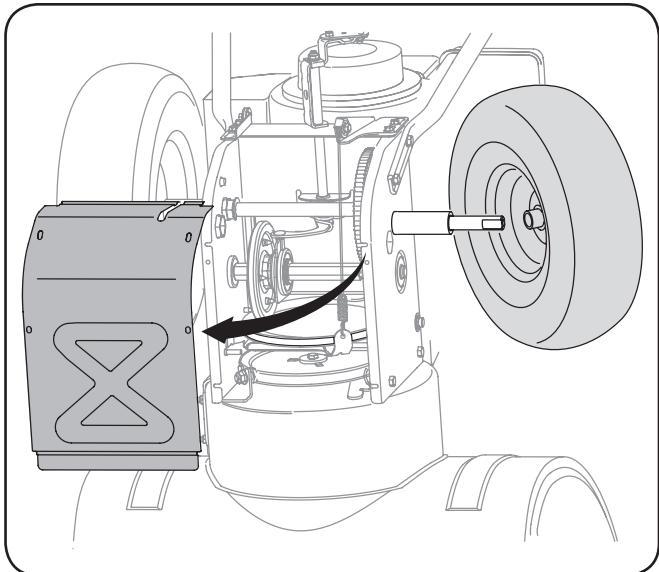

Fig. 7-9
3. Remove the frame cover from the underside of the snow thrower by removing the self-tapping screws which secure it. See Fig. 7-9.
4. Remove the frame cover from the underside of the snow thrower by removing the self-tapping screws which secure it. Remove the right-hand wheel by removing the screw and bell washer which secure it to the axle. See Fig. 7-9.